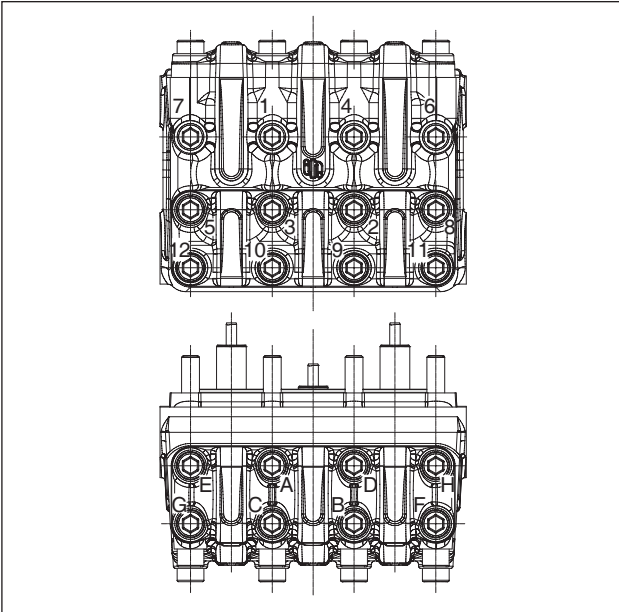

Fig. 29
** The head fixing screws exploded view pos. 13 must be tightened with a torque wrench respecting the order shown in the diagram in Fig. 29.
*** The valve cover fixing screws exploded view pos. 10-13 and exploded view pos. 22 must be tightened with a torque wrench respecting the order shown in the diagram in Fig. 29.